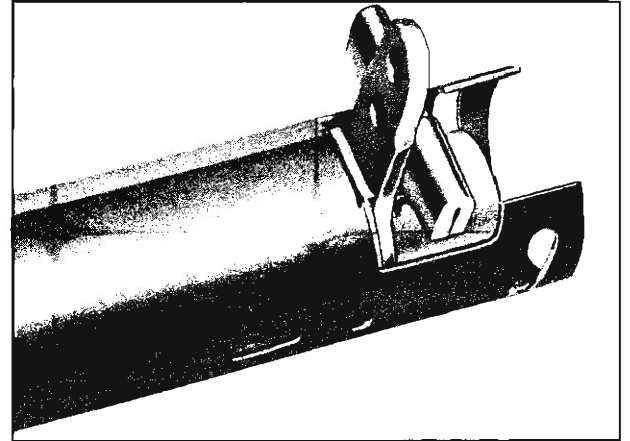

Fig. 29—Proper Position of Shifter Tube Bearing
**NOTE:** Bearing must be seated against the three locating tabs (fig. 29).